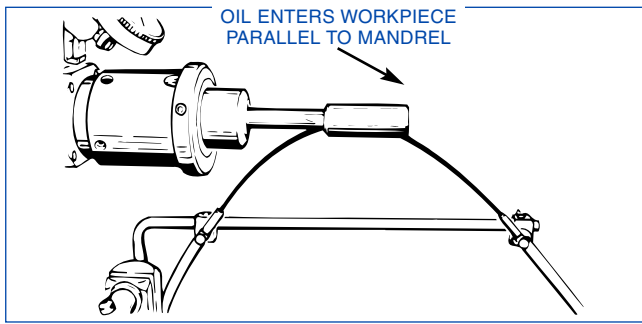

FIGURE 3-1, Coolant
12. Adjust Coolant Nozzles. Direct coolant stream onto both ends of honing unit so flow of coolant will enter bore being honed (see Figure 3-1).